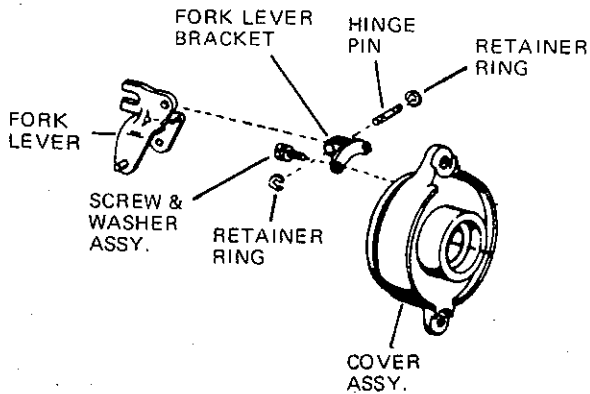

Figure 8. Exploded view of shift fork assembly.
- I. Use a flat-tip screwdriver to remove the two screw and washer assemblies holding the fork lever to the cover assembly and remove the fork lever to the cover assembly and remove fork lever (Figure 8). If it is necessary to disassemble the fork lever, remove one pin retainer ring and slide out the hinge pin.